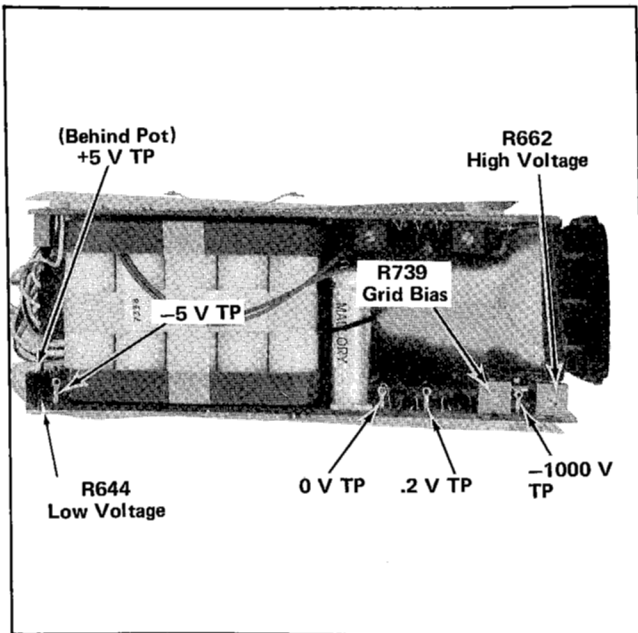

Fig. 5-1. Location of the Low Voltage, High Voltage adjustments and test points.
- d. Adjust R644 Low Voltage adjustment for exactly 10 volts. See Fig. 5-1.
- c. Adjust the High Voltage adjustment R662 for exactly  $-1000$  volts. See Fig. 5-1.
- d. Adjust Grid Bias Adjustment R739 for exactly 0.2 volt. See Fig. 5-1.